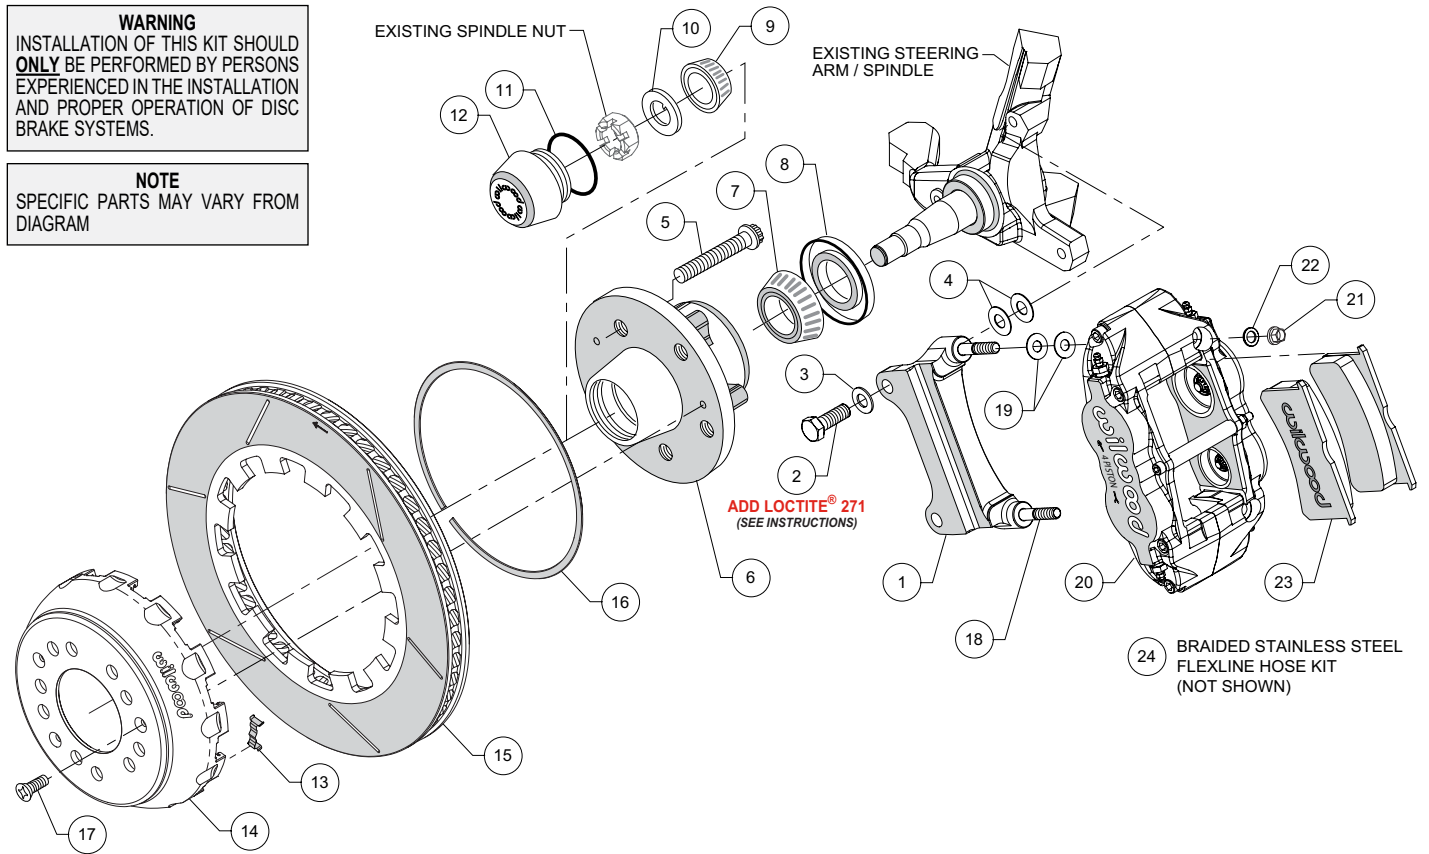

Figure 2. Typical Installation Configuration
**NOTE:** Numbers in parenthesis refer to the parts list and Figure 2 on the preceding pages.
- The caliper mount bracket (1) should initially be installed with clean, dry threads on the mounting bolts. Orient the bracket as shown in Figure 2 and Photo 1, and install using bolts (2) and washers (3). Initially place two .033" thick shims (4) on each bolt between the bracket and upright, Figure 2. Temporarily tighten the mounting bolts. **NOTE:** The bracket must fit squarely against the mounting points on the spindle. Inspect for interference from casting irregularities, machining ridges, burrs, etc. Later, after the caliper alignment has been checked, the mount bolts will be secured using red Loctite® 271.
- Insert the dynamic mount wear clips (13) into the slots in the hat (14), Photo 6. Orient the rotor (15) as shown in Figure 2 and Photo 7, with the flush side of mount lugs facing the hat. Secure the rotor to the hat using the snap ring (16) by simultaneously pushing down on the rotor and installing the ring into the groove in the hat, as shown in Photo 8. Carefully inspect snap ring to ensure complete engagement in the groove.
- Slide the hat/rotor assembly onto the hub assembly. **NOTE:** The hat must fit flush against the hub flange or excessive rotor run out may result. Install three flat head screws (17) through the small holes in the hat, Photo 9, and torque to 85 in-lb.
- NOTE:** This kit contains distinct right and left hand calipers that must be mounted in a specific direction, as described below. Initially place two .035" thick shims (19) on each stud (18) between the caliper and the bracket, as shown in Figure 2 and Photo 10. Mount the caliper (20) onto the bracket (1) using lock nuts (21) and washers (22), Figure 2. Ensure that the caliper is mounted so the largest pistons are at the rotor exit end of the caliper, in relation to the forward rotation of the rotor. Temporarily tighten the lock nuts and view the rotor through the top opening of the caliper. The rotor should be centered in the caliper, Photo 11. If not, adjust by adding or subtracting shims (4) between the bracket and the spindle. Always use the same amount of shims on each of the two mounting bolts. Once the caliper alignment is correct, remove the bracket mounting bolts (2) one at a time, apply red *Loctite*® 271 to the threads, and torque to 60 ft-lb.